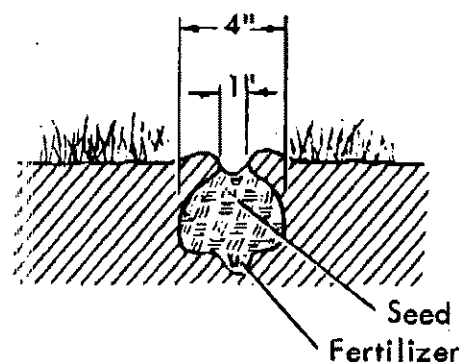

FIG. 2 Using Seal Only
- FIG. 2** Soil shown after using seal only. This arrangement is suitable for use where existing sod is not too heavy, but where the soil is hard enough to require a prepared seedbed.